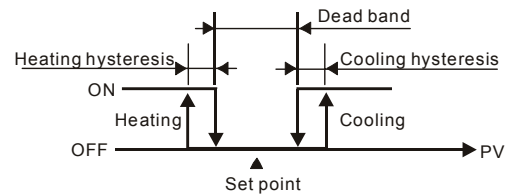

Figure 1. Output operation of ON/OFF control during dual loop output control
**DEBd**: Dead Band, shown as the following figure 1, 2 and 3. This parameter sets an area in which the heating and cooling control output is 0 centering around the set point in a Dual Loop output control mode.